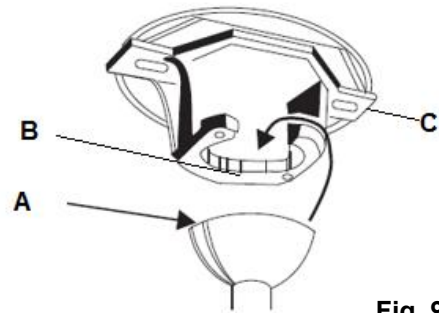

Fig. 9
Lift the fan assembly onto the mounting bracket. Ensure the key slot (A) of the hanger ball is positioned on the key pin (B) of the mounting bracket (C) to prevent the fan from rotating when in operation. **Fig.9**
1. Hang the complete fan assembly onto mounting bracket. **(Fig. 9)**